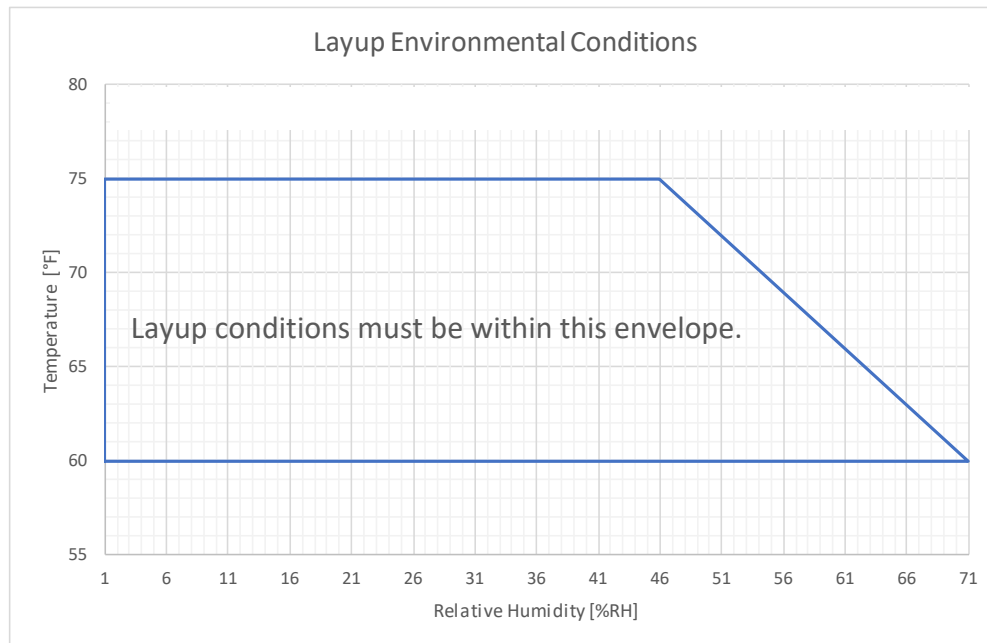

Figure 1: Layup Environmental Conditions.
1. Temperature and humidity shall be controlled for material handling and layup. The critical environmental conditions envelope is shown in Figure 1: